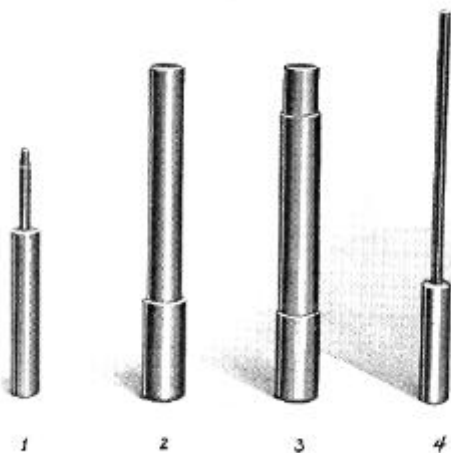
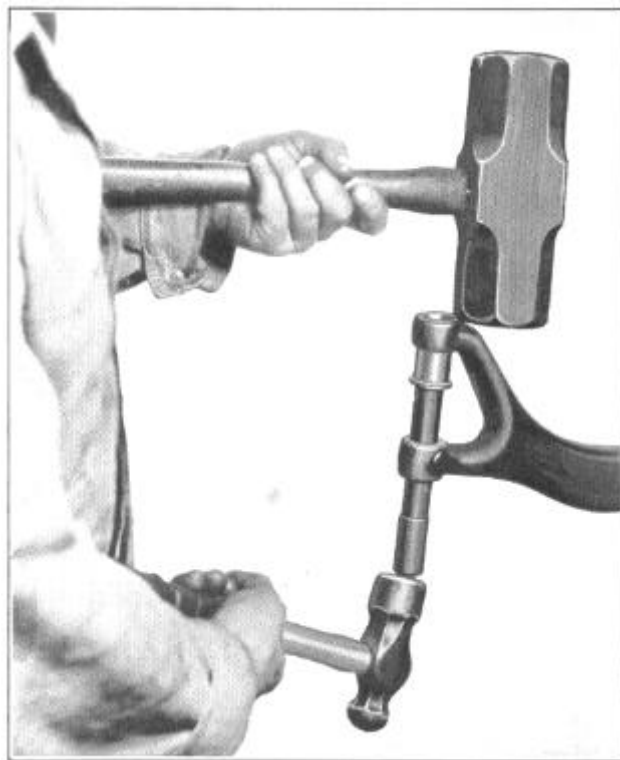

Figure 3
Figure 4
NOTE: It is not necessary to remove the axle from under the car for this operation. This can be done by proceeding as follows either with the axle removed from the car or after operations 1 to 5 inclusive under removal of front axle. The special tools required are shown in Figure 3.
14. Insert driver J-479-1 (1-Figure 3) through hole in upper bushing and drive spindle pin down, forcing out expansion plug at bottom of spindle,
then insert driver J-479-2 (4-Figure 3) and drive pivot pin out.
16. Insert driver J-469-2 (3-Figure 3) into lower bushing and drive it out.
17. Install new upper bushing, using driver J-469-2 (3-Figure 3) as shown in Figure 4. The top of the axle center yoke must be well supported.
18. Install new lower bushing, using driver J-469-1 (2-Figure 3), as shown in Figure 5.